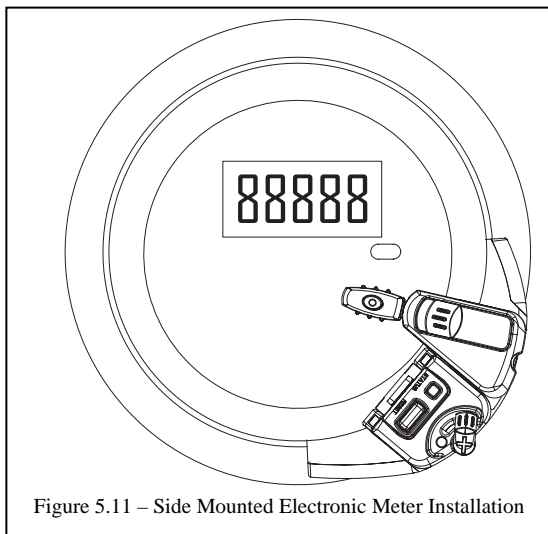

Figure 5.11 – Side Mounted Electronic Meter Installation
4. Fit the Sensor Unit over utility meter as shown in figure 5.11, below. Ensure that the Sensor Arm is as close to the front of the utility meter glass dome as possible. Position the Sensor Unit so that the Sensor Arm is over top of the optical port. If needed, you can adjust the tilt of the Sensor Arm. To do this, open the Sensor Arm latch, move the Sensor Arm slightly up or down, and then close the Sensor Arm latch.
6. Press and release the RESET button on the battery cover of the Sensor Unit, as shown in figure 5.11. The red indicator on the Sensor Unit will begin to flash once per second. It will take up to 15 seconds for the Sensor Unit to determine that it is installed on an electronic meter. Once it has determined this, the red indicator light will flash at a steady rate approximately 3 times per second.